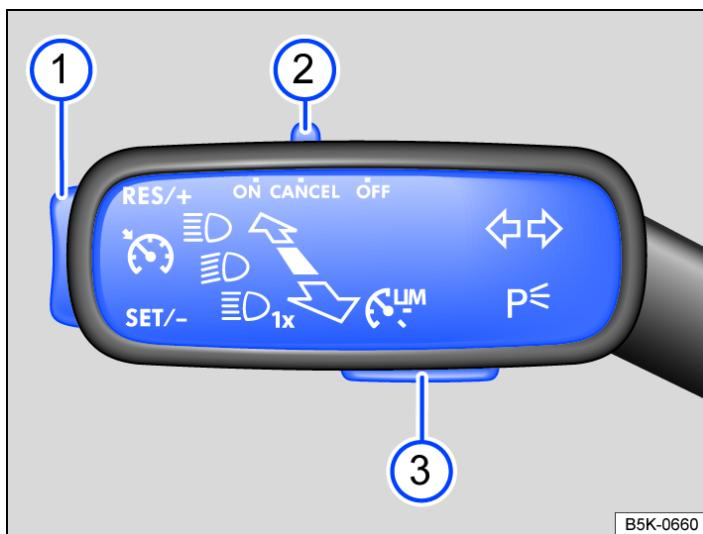

Fig. 1 On the left of the steering column: switch and buttons for operating the speed limiter.
- Move switch → Fig. 1 ② to position **ON**.
- Press button → Fig. 1 ① in the area **SET/-** while driving.